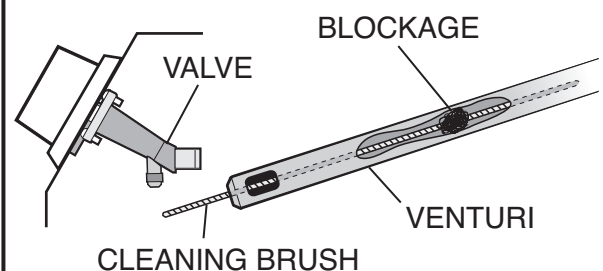

Fig. 8
- Use a venturi cleaning brush and insert the brush into the venturi tube 1 inch at a time, then remove to prevent moving the debris upwards (Figure 8).
- Visually check the flames every time you light your barbecue (Figure 10). If the flame is abnormally small or a smoky yellow - shut off the barbecue and check the venturi tubes for blockage (see Figure 8) or refer to the Troubleshooting Guide.